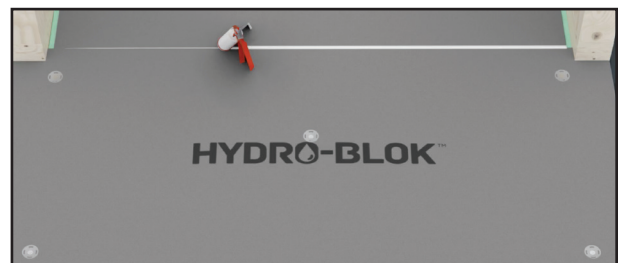
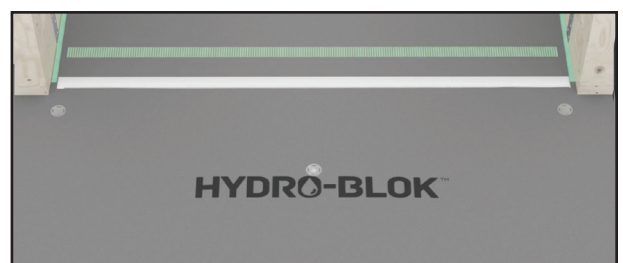

Fig. 20
Fig. 21
7. Apply a ½" bead of Joint Sealant to the seam between the Board and Shower Pan as shown in Fig. 20 and trowel the Joint Sealant flat with the Standard Putty Knife. Cut a strip of the included 2" mesh tape to within 3" of the ends of the Shower Pan and press the Mesh Tape into the existing Joint Sealant (Fig. 21) working from the center out with the Putty Knife, smoothing any wrinkles.